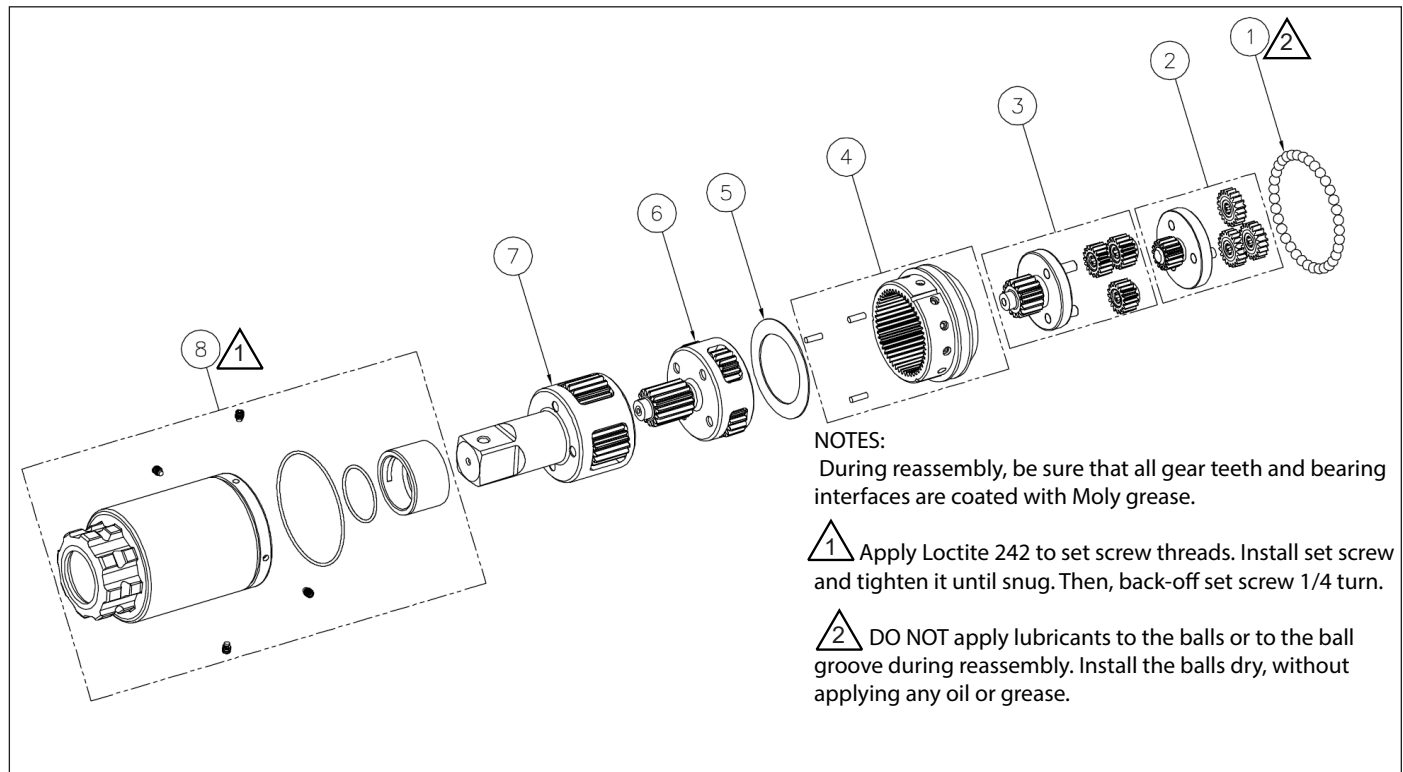

Figure 10: TW1000SR Gearbox Assembly
9.4.1 Table of Parts (Figure 10)